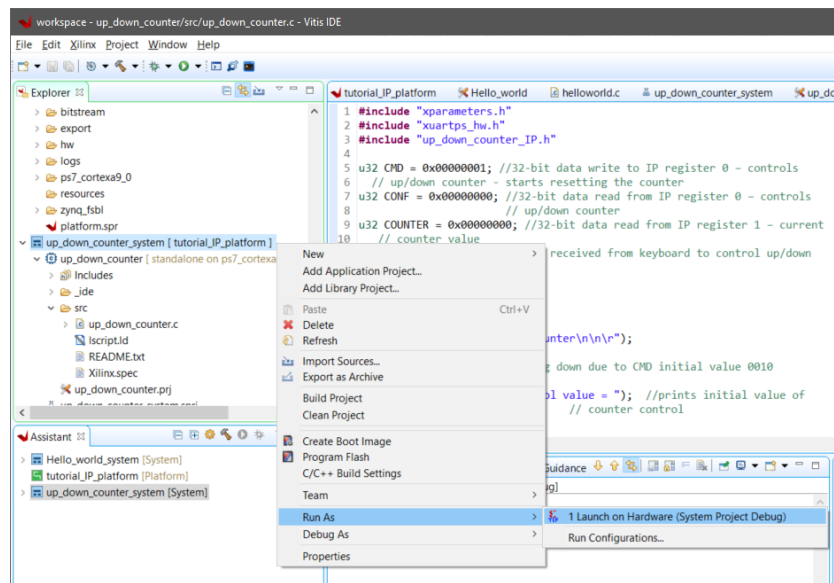

Figure 33
16. Right click and select **Run as → 1 Launch on Hardware (System Project Debug)** (Figure 33)